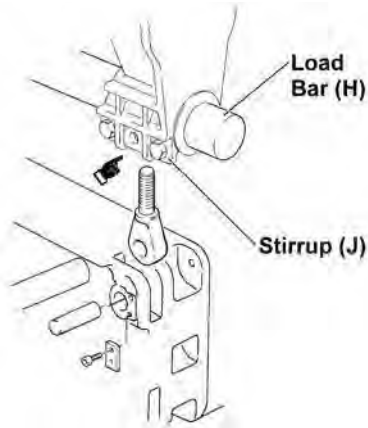

Figure 3-10 Adjusting Standard Headroom Trolley for Beam Flange Width
- 2) **NOTICE** Each Stirrups (H) has sufficient clamping force on the Load Bars (J) with only two bolts. The third bolt cannot be installed in some cases because of interference with the suspension of the hoist (see Figure 3-10).